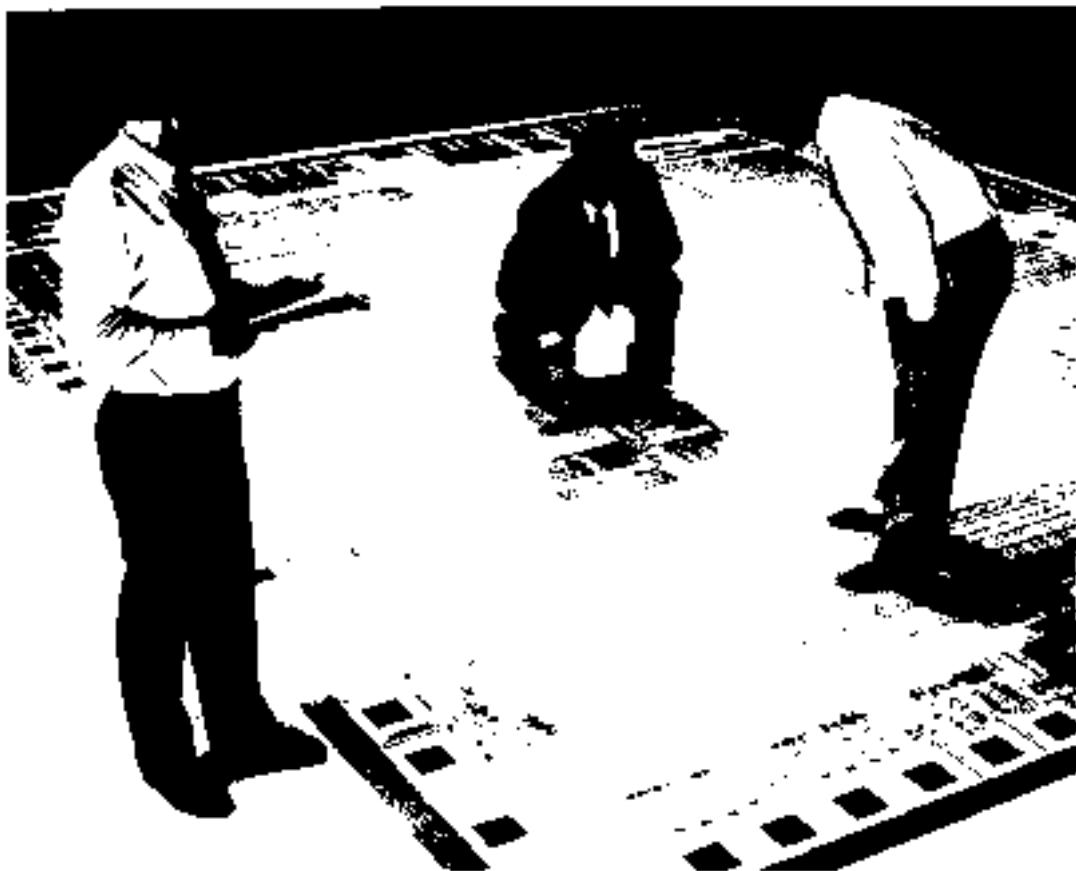

Figure 12.13. At the chip-design level, CAD/CAM isn't a luxury - it's a necessity. (Courtesy of Performance Semiconductor Corporation, Sunnyvale, California.)
□ **CAD-base ASIC.** We finish our CAD narrative by pointing out that you would not dream of designing custom or semicustom (gate-array) ICs by hand (Fig. 12.13). These belong in the general class of "application-specific integrated circuits," or **ASICs**. Once again, CAD comes to the rescue, with capture and simulation software that gives you some assurance that your chip has a chance of working. ASICs are rational in the context of substantial production runs, and we confidently assume that the situation will only improve with time. By the time of the next revision of this book it may have become